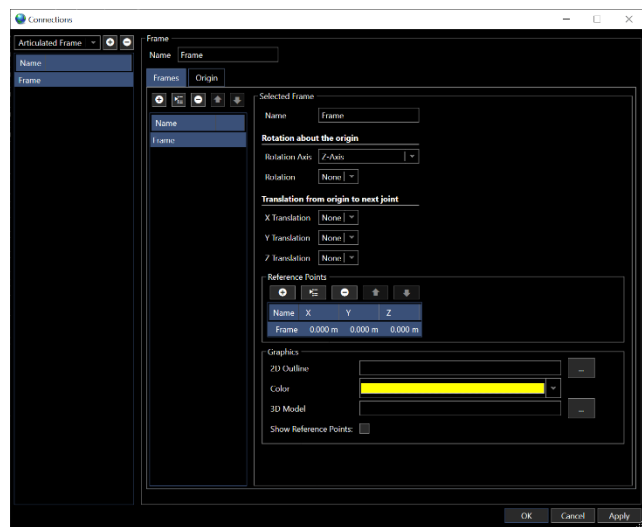

FIGURE 15-27 CONNECTIONS – ARTICULATED FRAME - CONFIGURE ARTICULATED FRAME DIALOG
- b. **Frames Tab:** Configures the individual rigid frames that make up the articulated frame, see Figure 15-27